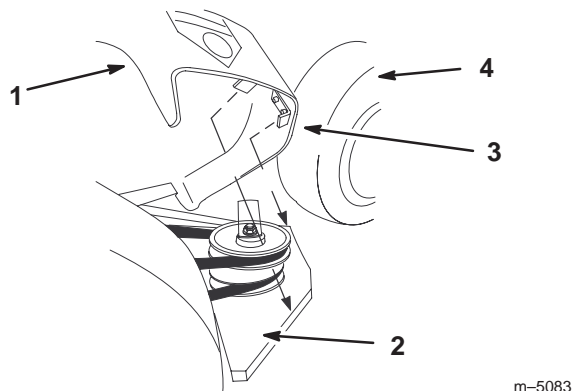

Figure 24
2. Adjust the blower belt cover so that the L brackets rest on pulley plate. Tighten the blower belt cover mounting screws (Fig. 24).